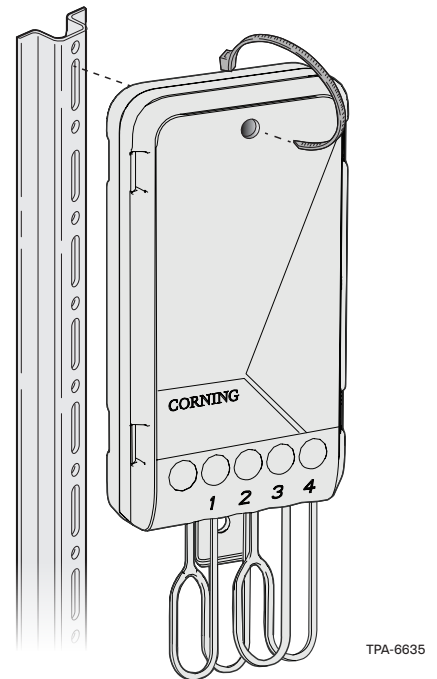

Figure 15
**Step 1:** Position the terminal in the handhole or pedestal with the mounting hole at the top and bottom of the terminal against the vertical mounting channel or wall (Figure 15) and attach the terminal with a cable tie or 1/4-in (6 mm) bolt/screw (Figure 15).